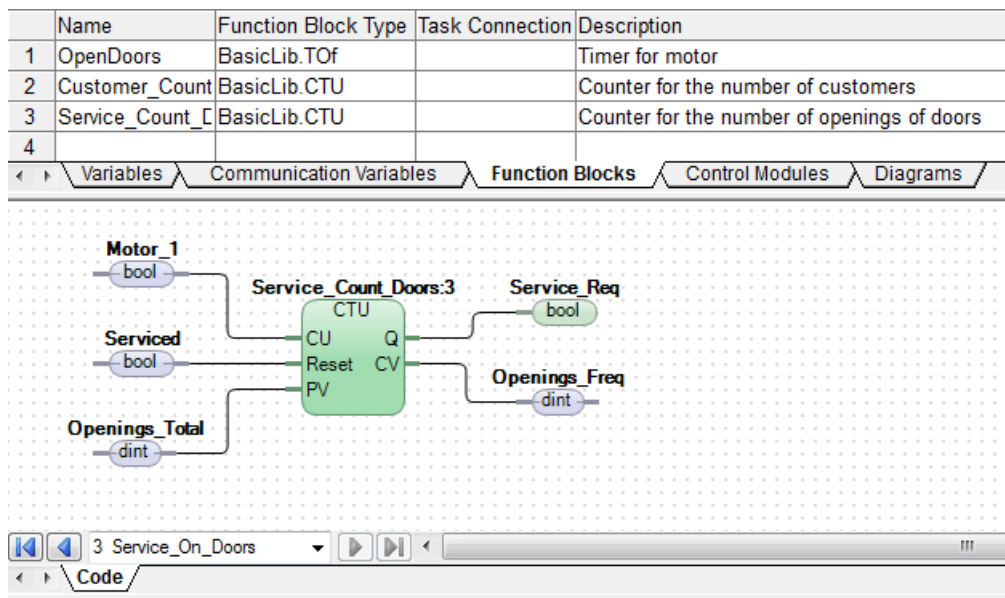

Figure 29. Variable connections to Service_Count_Doors Function Block Type
2. Connect the variables to the **Service_Count_Doors** as in the Figure 29.